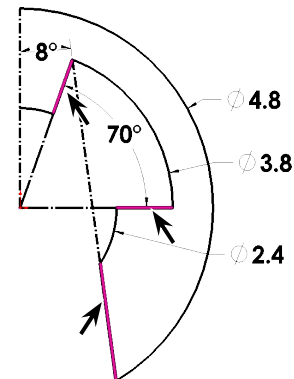

Fig. 11
Step 1. Click **Line**  (L) on the Sketch toolbar.
Step 2. Draw **three lines** between arcs, Fig. 11.